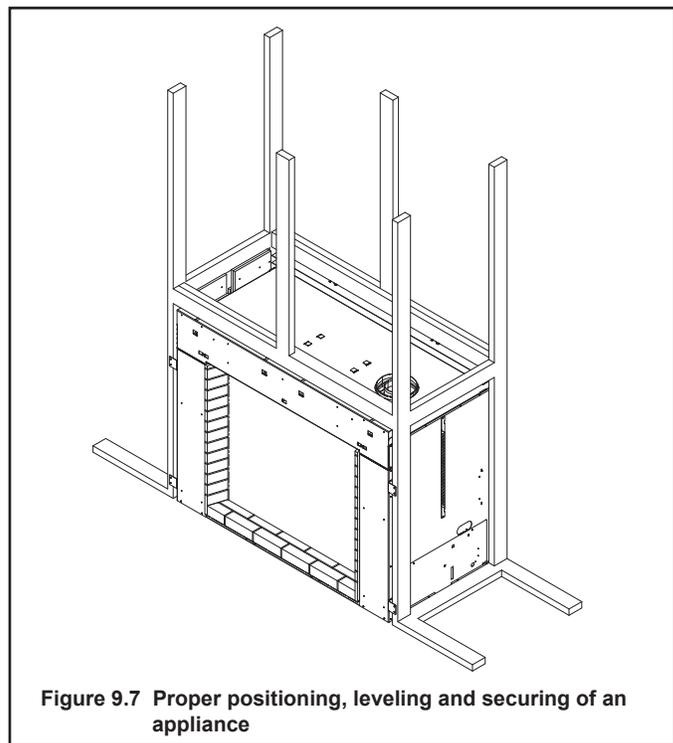

Figure 9.7 Proper positioning, leveling and securing of an appliance
4. Six sheet metal finishing strips are included with the appliance. The shipping location of the finishing strips is shown in Figure 9.3. Remove 1/4 in. screws that attach the strips to the appliance. Strips may be used during the final finishing steps of appliance setup. See Figure 9.7. Strips should be removed when finishing is completed.
The diagram shows how to properly position and secure the appliance. See Figure 9.7. Nailing tabs are provided to secure the appliance to the framing members.